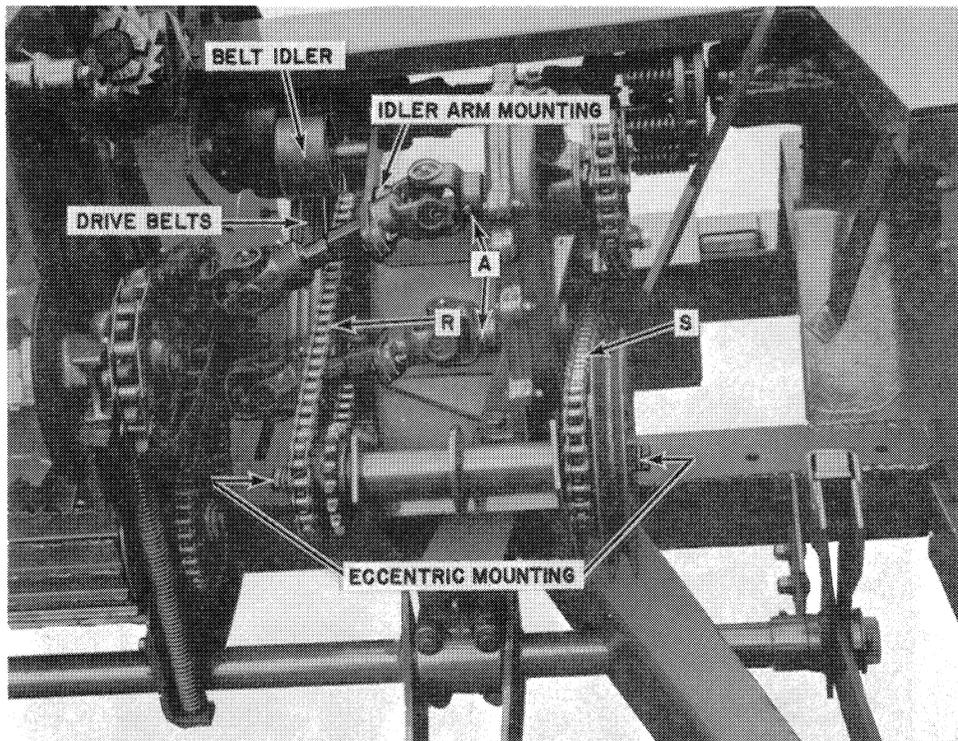

FIGURE 8
3. Remove the sickle drive chain S, and attachment drive chain R, Figure 8.
4. Remove the bolts indicated at A, Figure 8, which secures the feed universals to the feed roll drive shafts.